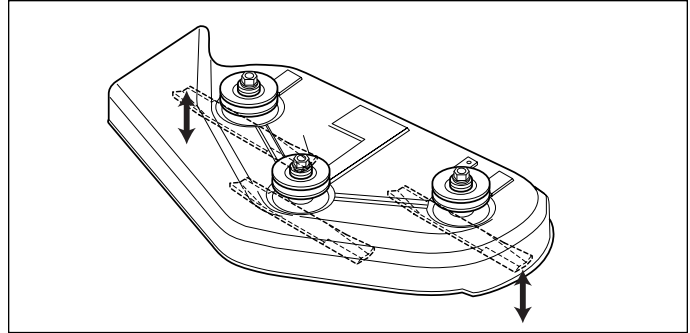

Figure 32. Orient Blades Side-to-Side
3. Place the mower in high-cut position. Arrange the mower blades so that they are pointing from side-to-side (Figure 32).